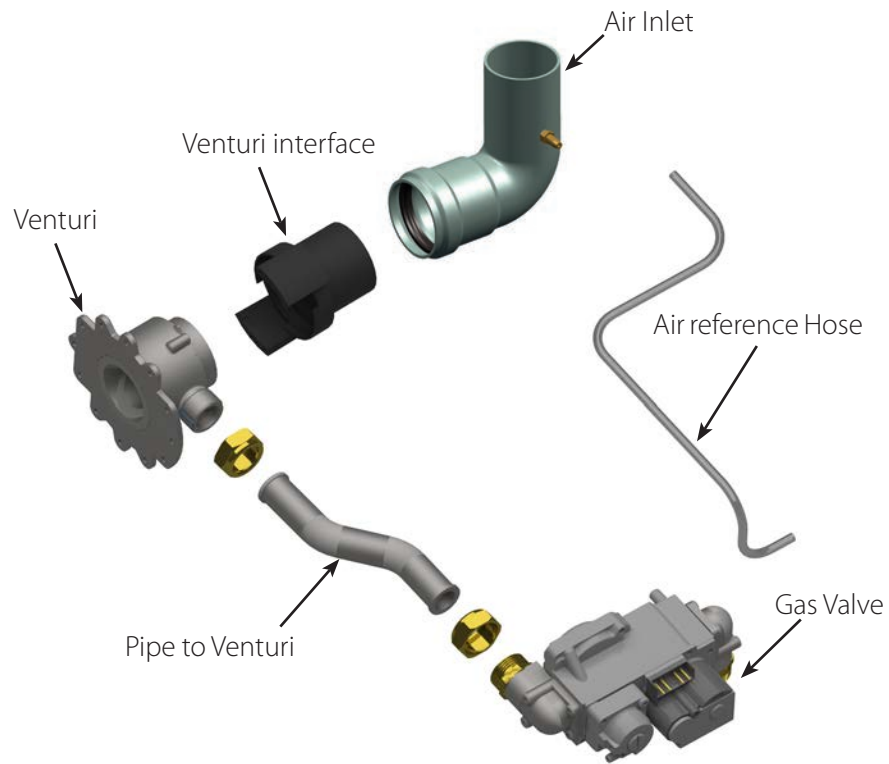

Fig. 28 - Gas Valve / Venturi Assembly - EXALT Solo/Combi 199
- Prior to start up, ensure the unit is set to fire propane. Check the rating label for the type of fuel. Check the venturi for propane conversion label. If there is a conflict or doubt on the burner configuration, remove the venturi and check for proper propane gas orifice sizing on venturi labeling. Refer to Section 7.3.2 for orifice sizes. See Fig. 26 and 27 on page 42 and Fig. 28 on page 43 for venturi location. Refer to Propane Conversion Instructions for proper removal and replacement of the venturi.